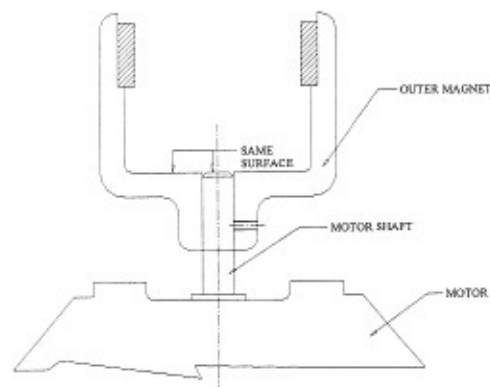

FIG. 3
- F. Slip the outer magnet (057) on the motor shaft (018) until the inner surface of the magnet hub is flush with the motor shaft, as shown in (Fig. 3)